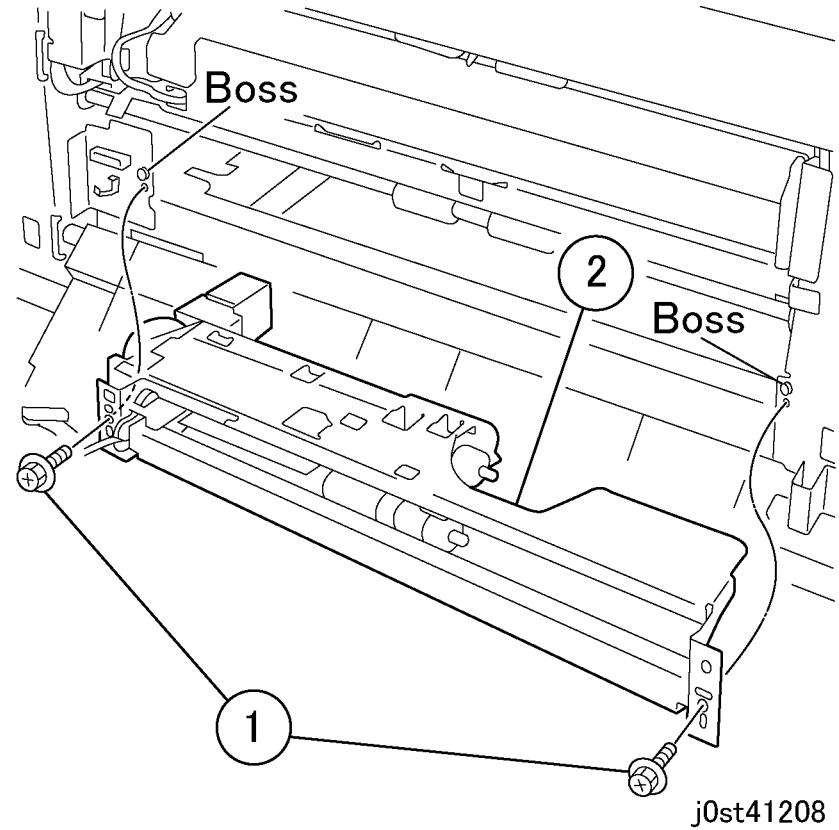

Figure 6 Removing the Tray 4 Feeder (j0st41208)
8. Remove the Tray 4 Feeder. (Figure 6)